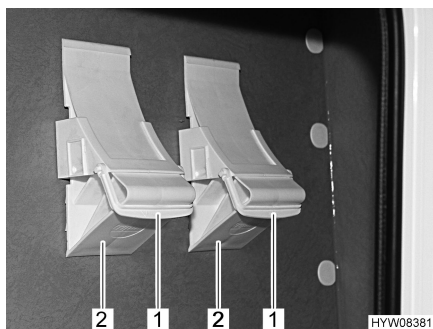

Fig. 7 Wheel chocks
- Swivel the retaining clip (Fig. 7,1) upwards.
- Remove the wheel chock (Fig. 7,2) from the holder.